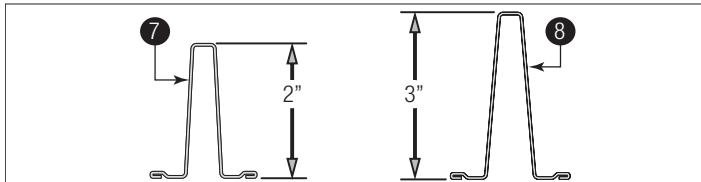

Figure 22
IMPORTANT: Measure the height of your strut(s) to determine if you have 2" Struts ⑦ and or 3" Struts ⑧. See Figure 22.